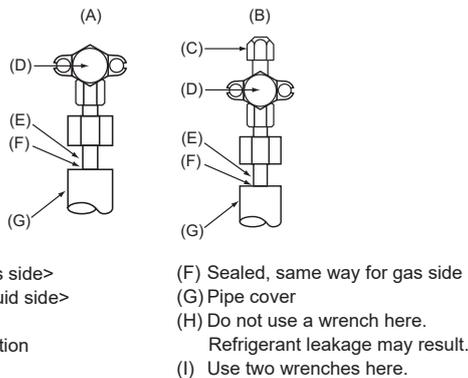

Fig. 4-4
4.4. Refrigerant Pipe Nitrogen Pressure Test Method (Fig. 4-4)